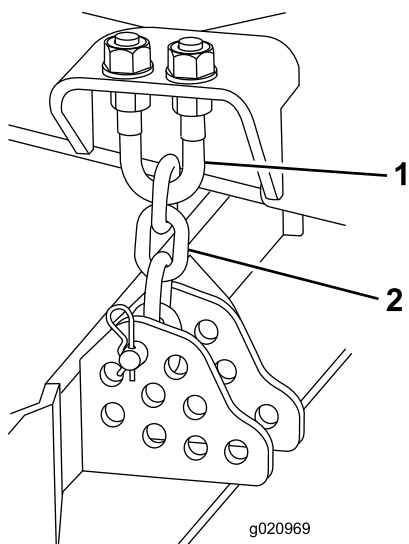

Figure 73
3. Remove the hairpin cotter and clevis pin securing the height-of-cut chains to the rear of the cutting unit (Figure 73).